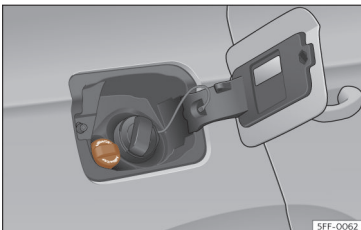

Fig. 196 AdBlue tank cap.
- Open the tank cover >>> Fig. 196.
- Turn the SCR tank cap anti-clockwise >>> Fig. 196.